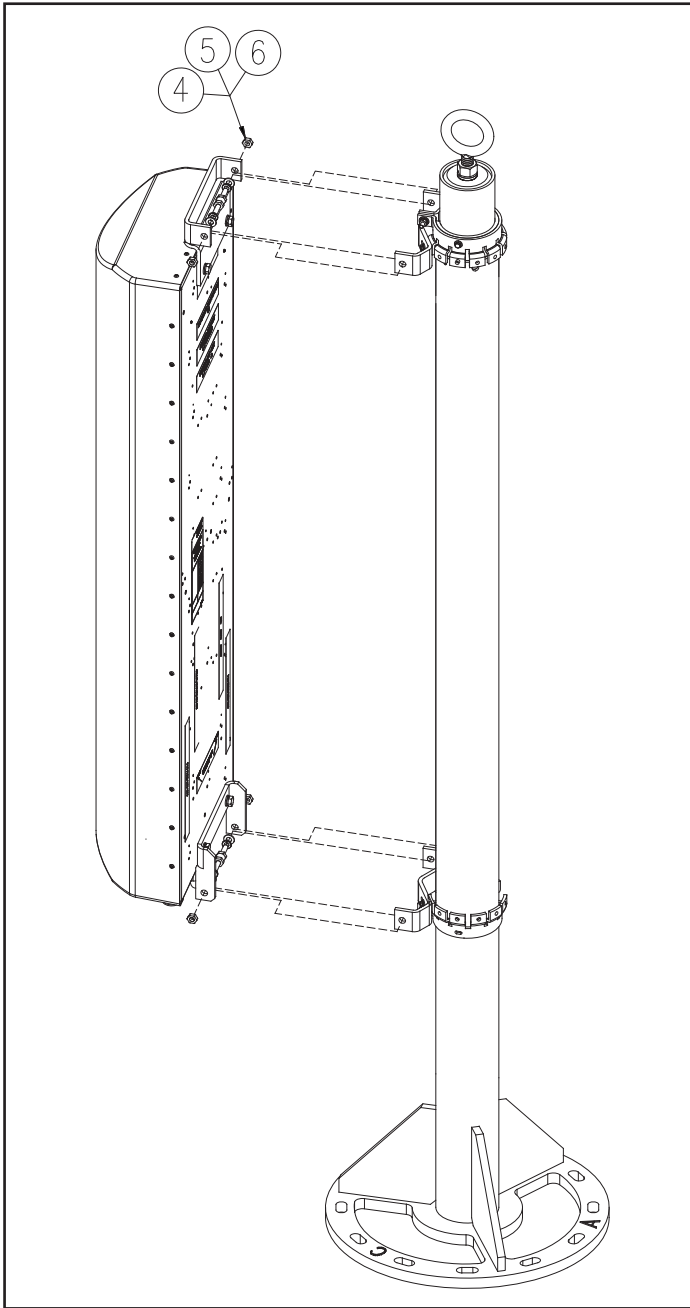

Figure 6. Attaching Type 1 Antennas to the Universal Tree Stand.
10. Attach the antenna to the bracket on the stand using the hardware provided. Tighten all hardware (Figure 6).